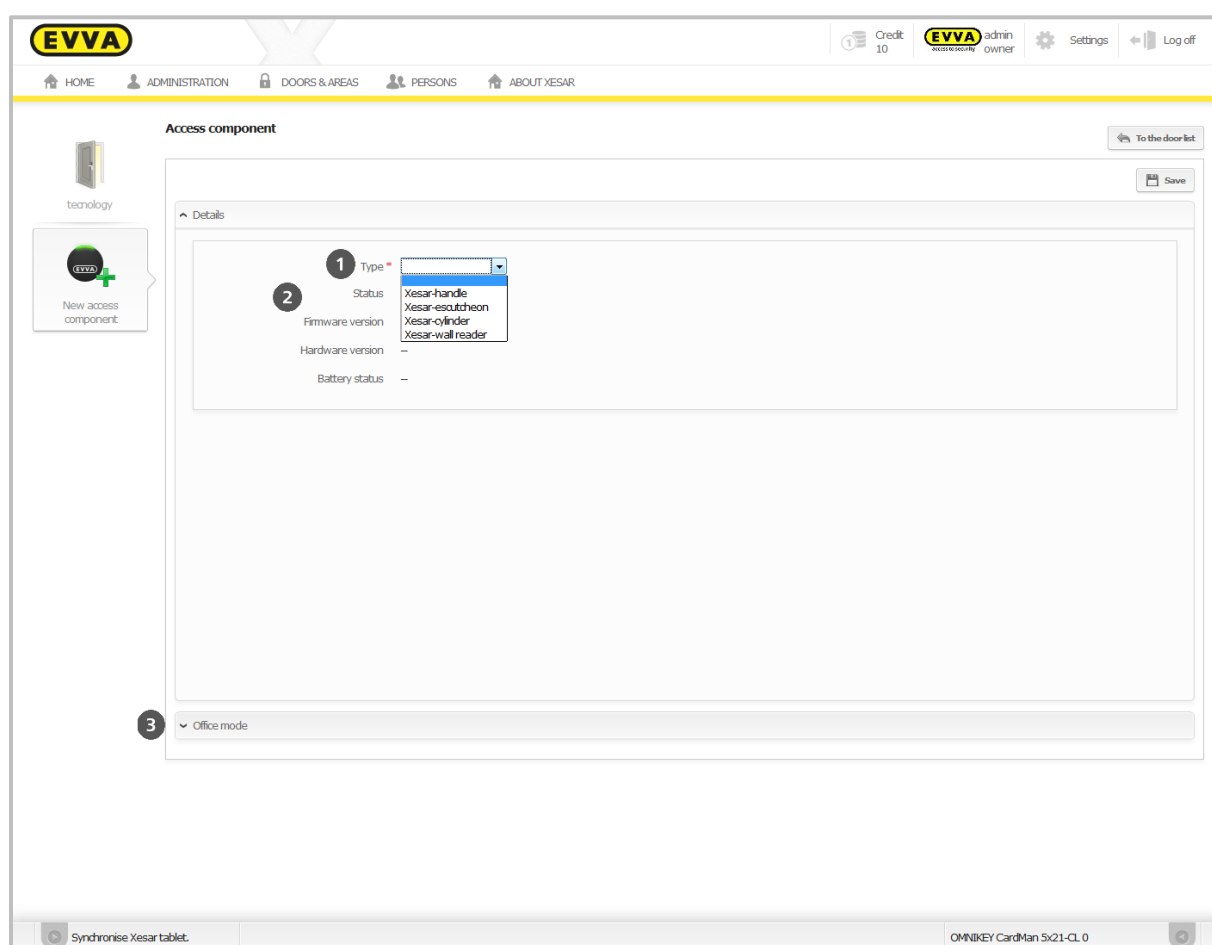

Figure 77: Assigning Xesar access components
- Click **New access component** to add a Xesar access component to your locking system (Figure 77: Assigning Xesar access components).
- In the **Xesar access component** application window you can now select the **Type 1** (Figure 77: Assigning Xesar access components) for your desired Xesar access component.